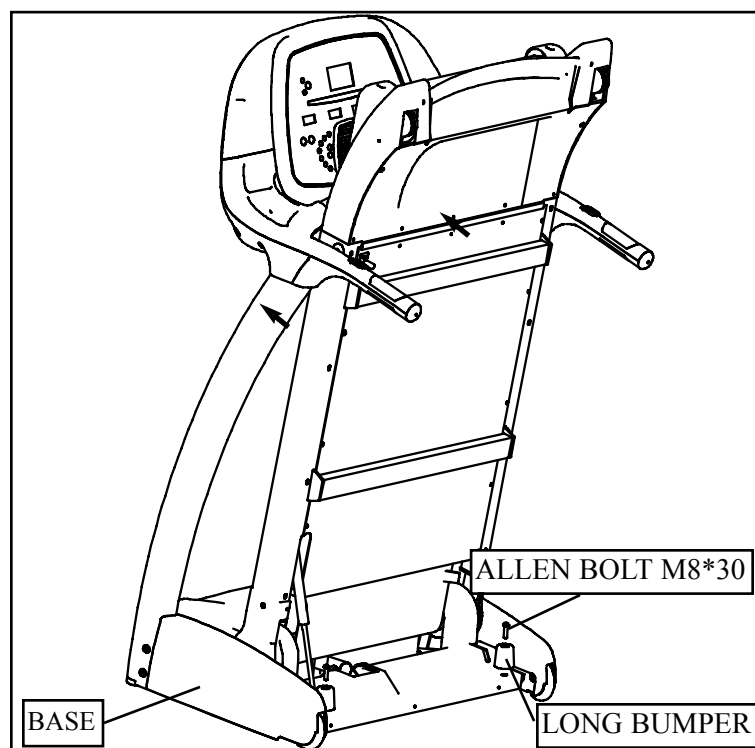

Figure 8: Long Bumper Installation
10. Install the Long Bumper (Qty 2) to Base using Allen Bolt M8*30 (Qty. 2) as shown in figure 8.